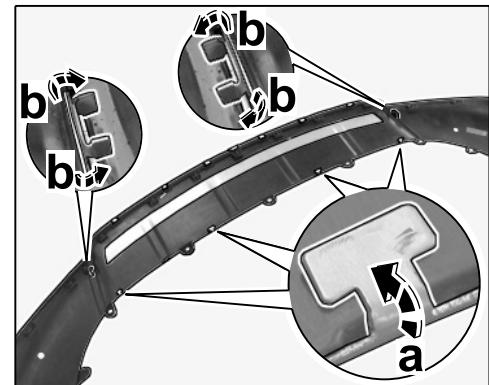

Figure 10
- 2.4.1 Bend the rear holders by 180° ( $\Rightarrow$  *Figure 10* -**arrow a**-).
- 2.4.2 Bend the tabs on the two outer retaining pivots over by approx. 90° ( $\Rightarrow$  *Figure 10* -**arrows b**-).